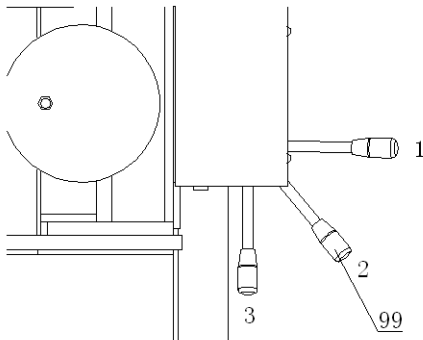

Fig .8
(refer to fig. 8)
Turn the handle lever (99) of socket valve to position 3. (fig 8)
Turn the handle lever (99) of socket valve to position 1. (fig 8)
To stop the movement of the piston rod: stop pumping the handle tube (50) or release the air foot valve (P54), the piston rod will stop moving. Then turn the handle lever (99) of selector valve to position 2. (fig 8)